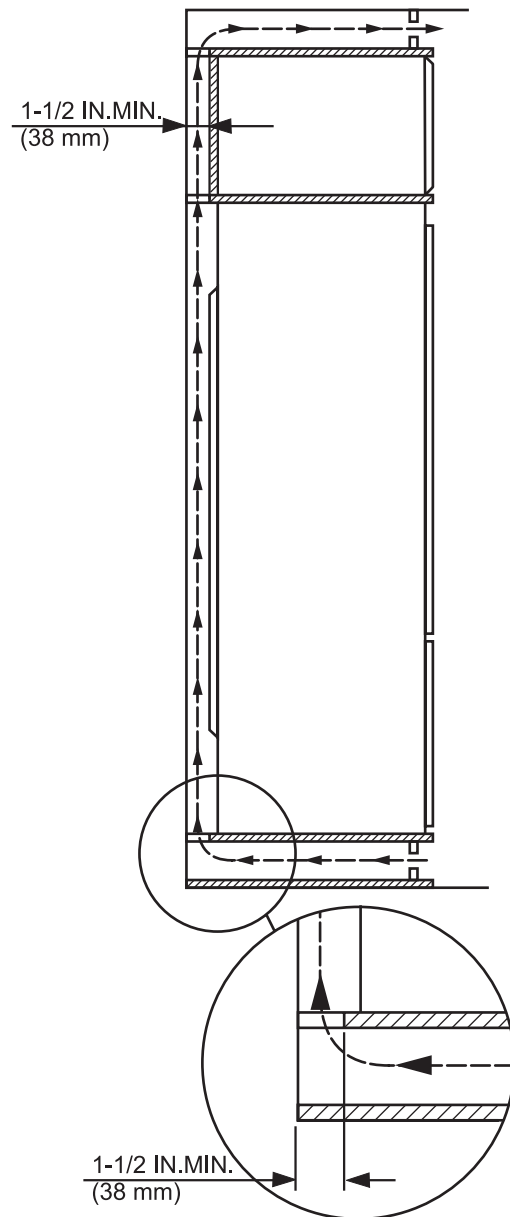

Figure 5
- There must be a clear ventilation space (**without any obstructions**) of at least 1-1/2 in. (38 mm) at the back of the kitchen cabinet (**Figure 5**).